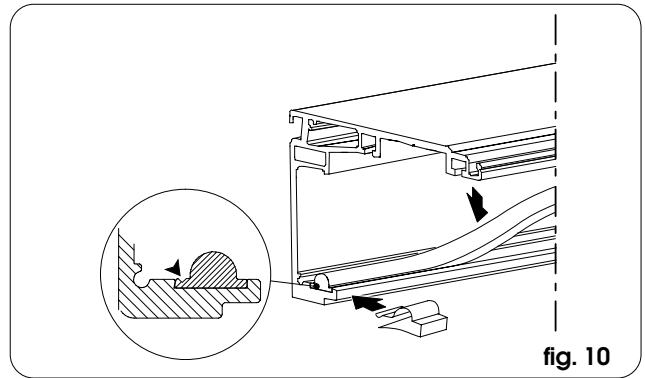

fig. 10
- Fit the sliding guide in its seat and secure it at the ends with the flexible grippers (fig. 10). A flexible gripper is also provided for double-leaf doors, and should be placed centrally.
- The guide is not symmetric but has a fitting direction: the side with a small groove should be turned to face the wall (fig. 10); moreover, the guide - on both ends - should be about 1 cm shorter than the support profile.